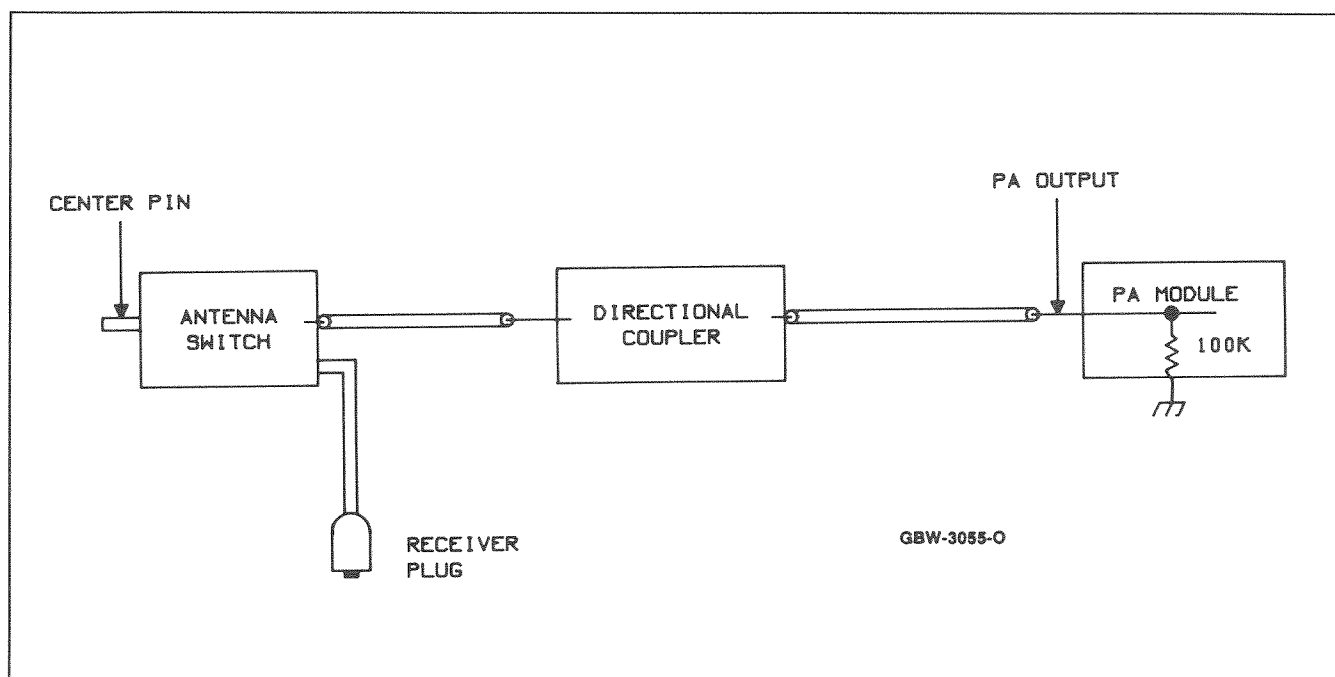

Figure 3. Transmit Signal Path
When the radio is in the receive mode, the antenna switch connects the antenna to the receiver via the receiver reed, coaxial cable, and phono plug; in the transmit mode, it connects the antenna to the transmitter via the transmitter reed, coaxial cable, directional coupler, and harmonic filter. (See Figure 3.)
(1) Verify that the coaxial cable is still disconnected from the PA deck input.
(2) Key up the transmitter and verify continuity between the center conductor of the coaxial cable and the center pin of the antenna switch. If there is continuity, check other points along the transmit path to locate any possible open circuits (Figure 3). If there is no continuity, replace the antenna switch.
(3) Verify that the resistance of the transmitter path to the radio chassis is 50 kilohms or more.